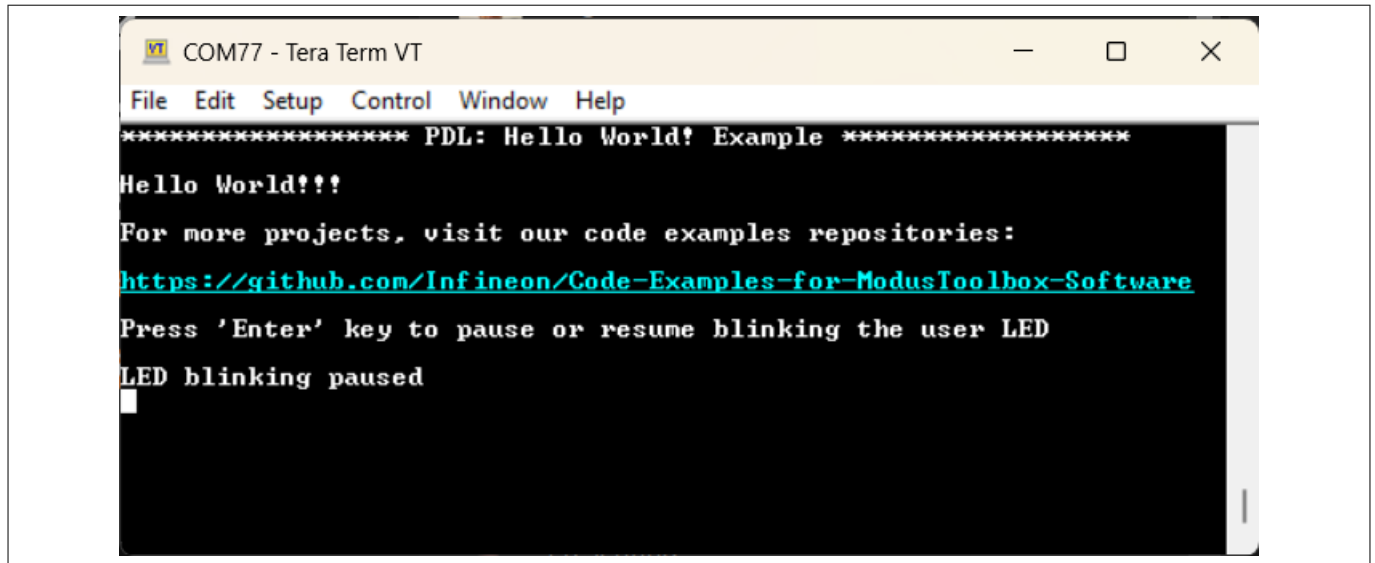

Figure 4 Serial terminal boot message
5. Press the XRES button (SW1) on the board and confirm that the serial terminal application displays the boot-up message, as shown in Figure 4